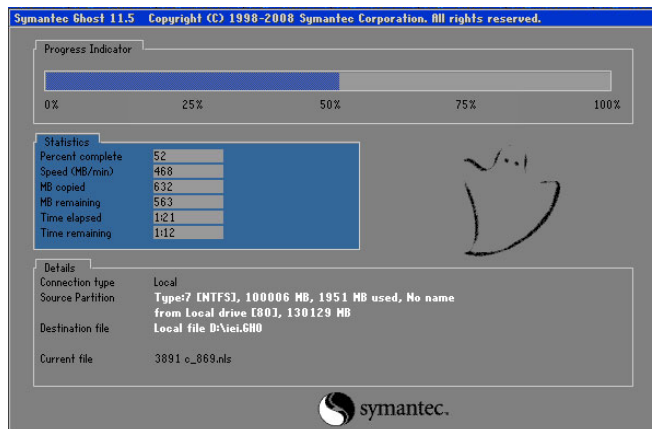

Figure D-19: Image Creation Complete
Step 10: The Symantec Ghost starts to create the factory default image (**Figure D-19**).